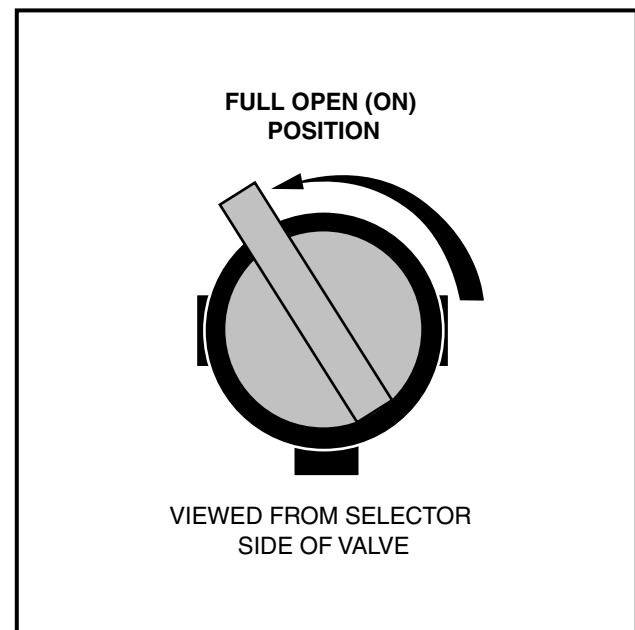
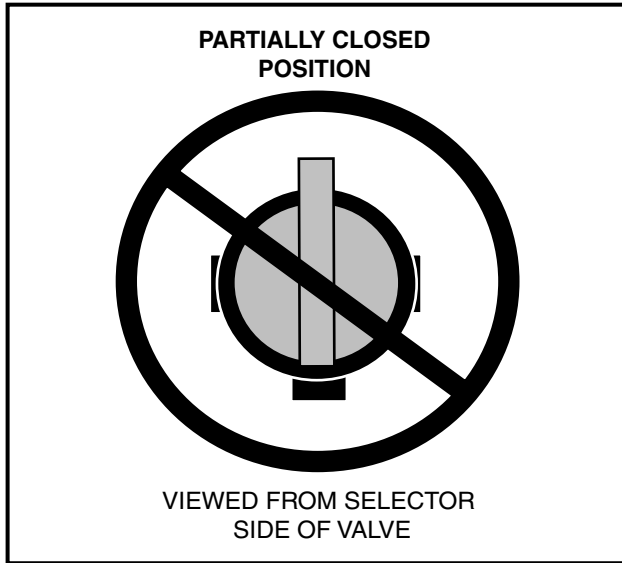

Figure 14-23 Open Fuel Shut-off Valve
Figure 14-24 Incorrect Fuel Shut-off Valve
11. Check to be sure the fuel shut-off valve on top of the gas tank is in the open (ON) position (**Figure 14-23, Page 14-32 and Figure 14-24, Page 14-33**).
The valve's open position differs from standard valve configurations. For the valve to be fully open, it must be turned approximately 120° from the closed (OFF) position (until it cannot be turned any further) (**Figure 14-23, Page 14-32**). If the valve becomes partially closed, (**Figure 14-24, Page 14-33**), the engine will not run properly due to fuel starvation.